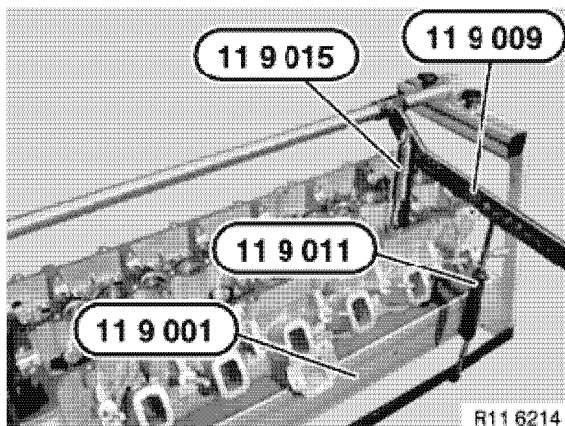

Figure 5-32
- Secure cylinder head to special tool OEM No. 11 9 001 (**Figure 5-32**).
- Install spring compressor OEM No. 11 9 015 on lever OEM No. 11 9 009 (**Figure 5-32**).
- Press down to compress valve spring and lock in place with special tool OEM No. 11 9 011 (**Figure 5-32**).